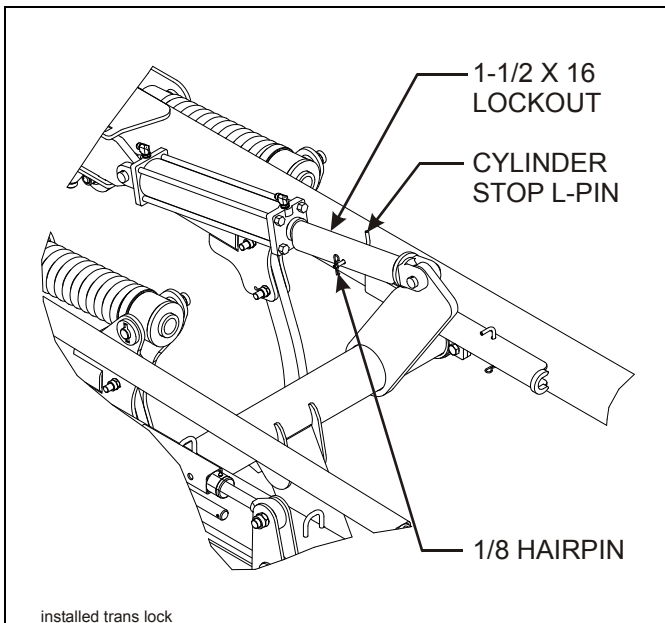
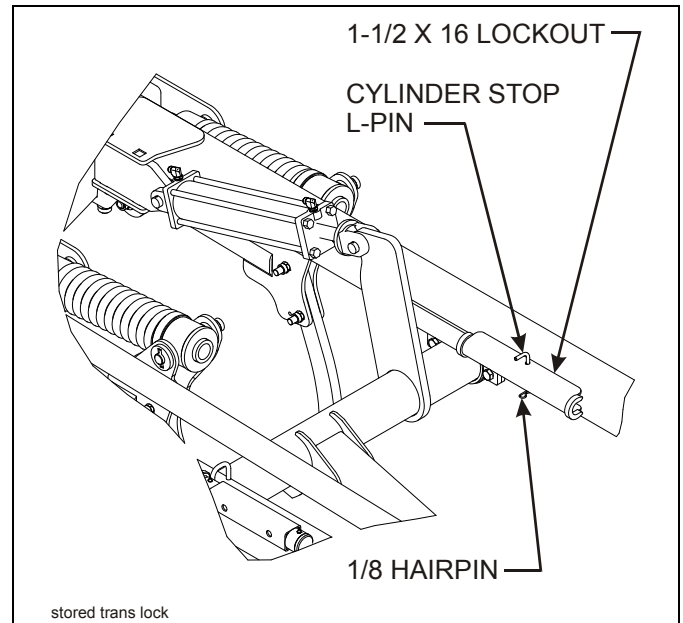

Figure 4-3: Installed Transport Locks
Figure 4-4: Stored Transport Locks
2. The hydraulic system is not filled with oil and should be purged of air before transporting and field operations. Carefully hitch the Ripoll to the tractor and connect the hydraulic lift hoses. Check to make sure the tractor hydraulic reservoir is full of the manufacturer's recommended oil. Slowly raise the machine. With all cylinders fully extended remove the 1-1/2 X 16 transport lockouts (See Figure 4-3.) Store transport lockouts as shown in Figure 4-4. Lower and raise the unit to verify that cylinders are working simultaneously throughout the stroke. Do not loosen any hoses or fittings. Recheck tractor reservoir to make sure it is within operating limits.